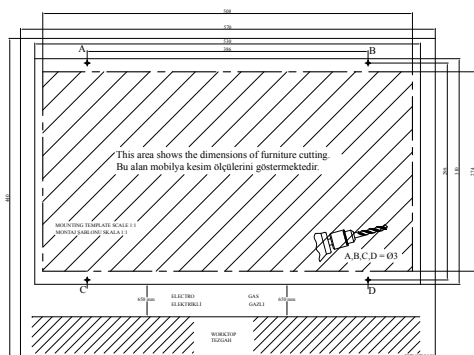

Figure 1
- Drill the holes indicated on the installation draft with A, B, C, D using a Ø4 mm drill bit. (Figure 1)